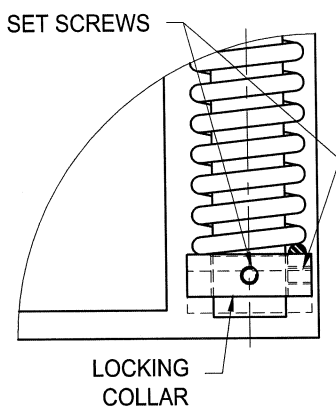

fig. 9
- Loosen set screws on the bottom bearing locking collar (fig. 9).
- Tighten locking collar set screw into desired position (fig. 9).